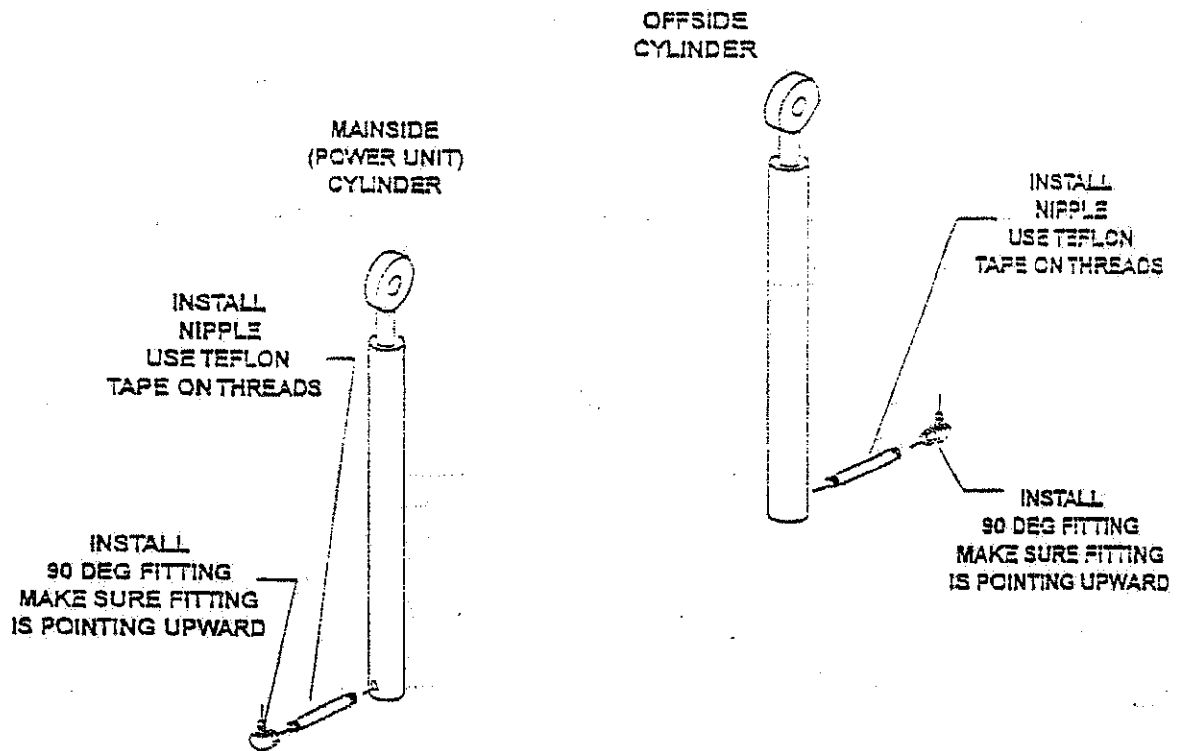

FIGURE 3
**NOTE: Some hydraulic cylinders may have two plugs. Use the plug WITHOUT FLOW RESTRICTOR.** Make sure the cylinder open port faces the opening in the back of the column. Stand the column up and assemble the nipple and the elbow fitting into the rear facing port using Teflon tape. Be sure the elbow fitting is facing up when tight (see Figure 3).